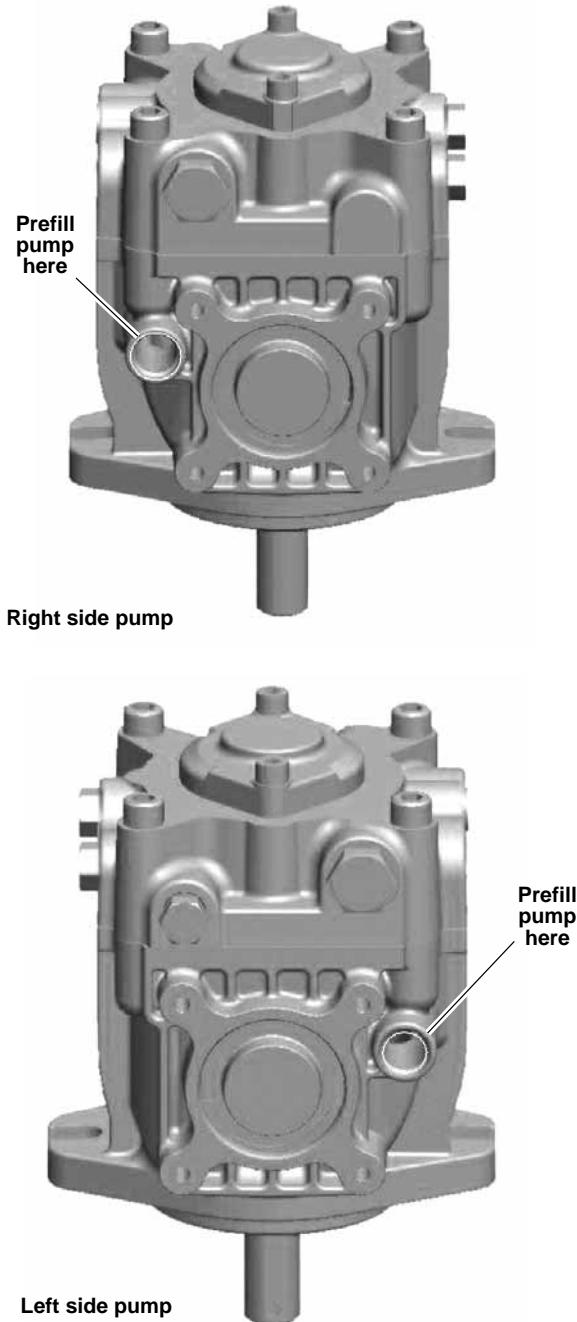

Figure 4-22
4. Before installing pump on machine, (either new or rebuilt) fill pump case with fresh, clean oil by removing case drain plug and add 6 - 8 oz. of 15W50 Mobil 1 oil, then install the hose fitting. Figure 4-22